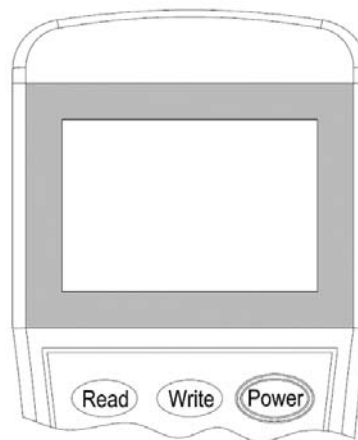

Figure 10
3. Input the **"1"** for **Single** Address mode or **"2"** for Dual Address mode then press **"Write"** to change the setting into the desire mode (Figure 10).